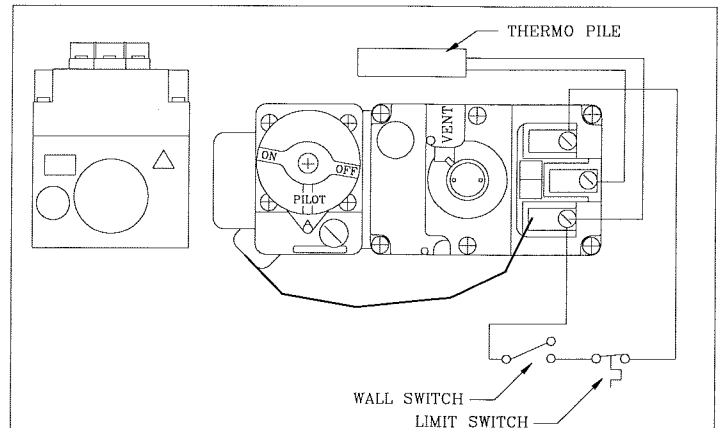

FIGURE 6. ROBERT SHAW GAS CONTROL VALVE
The gas control valve is located behind the brass trim in the centre of the fireplace (see **Figure 6** below). Before lighting the pilot, make sure that the gas line is connected and the gas shut-off valve is turned to the ON position.
1. Remove Pilot Adjustment Cap. (see figure 6 or 7)